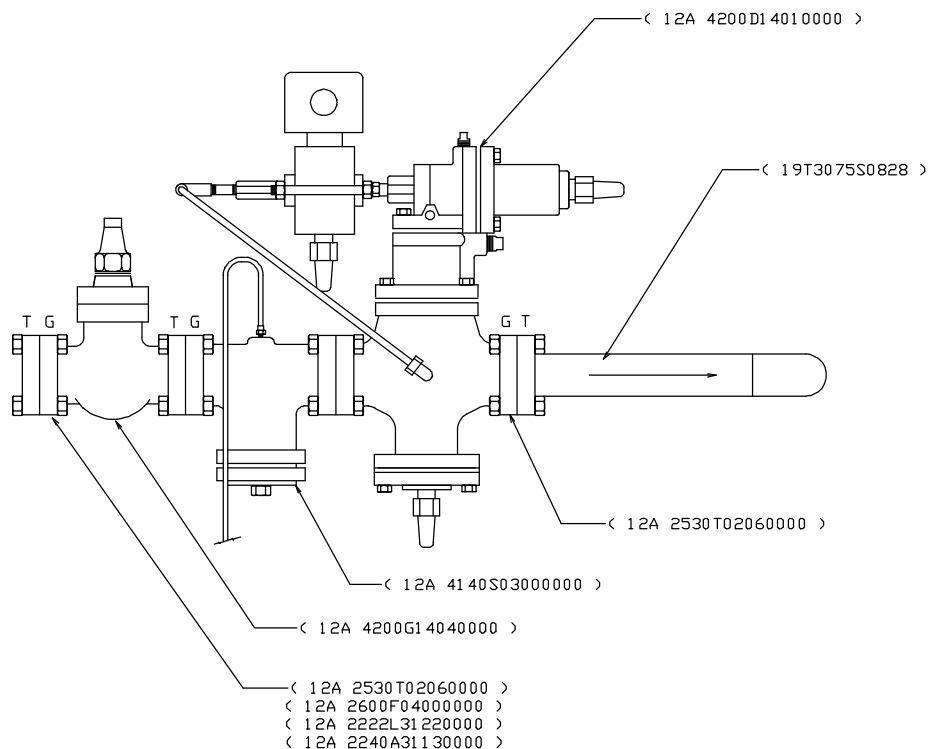

FIGURE 9-7
The Thaw Gas Solenoid Valve (18), Figure 9-7, is opened during the thaw cycle to allow warm gas to pass from the receiver to the freezer. Repair or replace as follows: